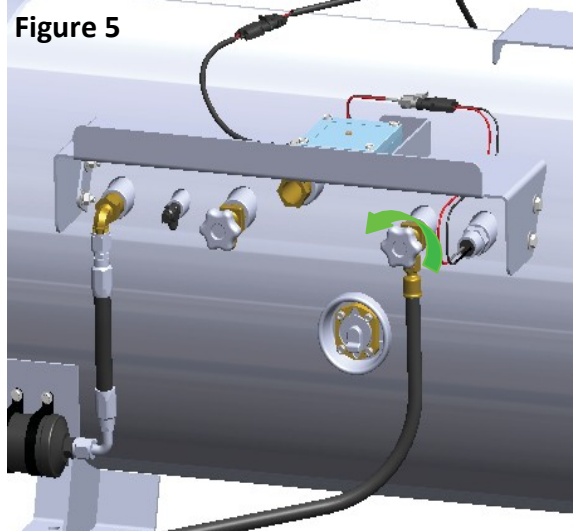

Figure 5
- 5) Slowly open the liquid service valve on the evacuation tank. **Figure 5**